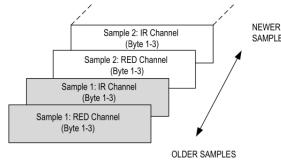

Figure 13: IR and Red LED sample in SpO2 Mode (3)
each time a sample is popped from the FIFO. Therefore, it acts as the TAIL of the circular buffer. The depth of the circular FIFO is 32, which means it can hold up to 32 samples of data. The sample size depends on the number of LED channels activated. Each channel signal is stored as a 3-byte data signal. The FIFO width can be 3 bytes, 6 bytes, 9 bytes or 12 bytes in size. In this project the FIFO width was 6 bytes since only two LED channels were activated (red and IR) as shown in Figure 13 (9).